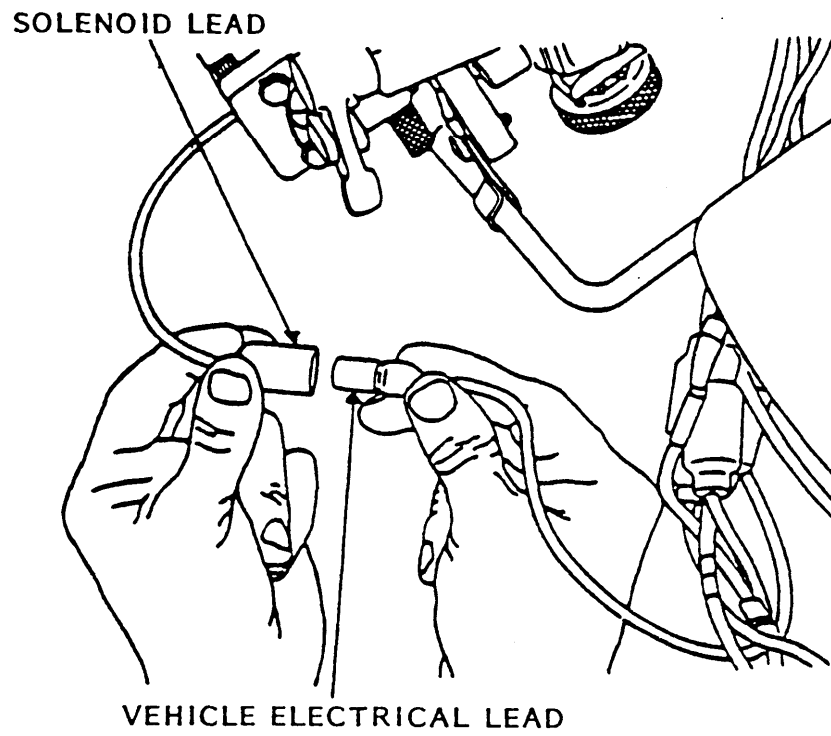

Figure 26. Connecting solenoid lead to vehicle electrical lead
- (19) Connect solenoid lead to solenoid connector hand-tight Using appropriate tool, tighten an additional one-quarter turn. Connect the vehicle electrical lead to the mount solenoid lead (fig. 26).
- (20) Position the empty cartridge bag 7797410 on the support assembly and fasten the snaps